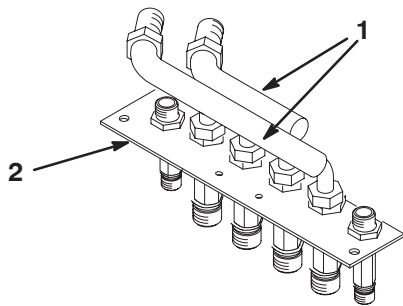

Figure 4
1. Remove the hydraulic tubes from the bulkhead assembly (Fig. 4).